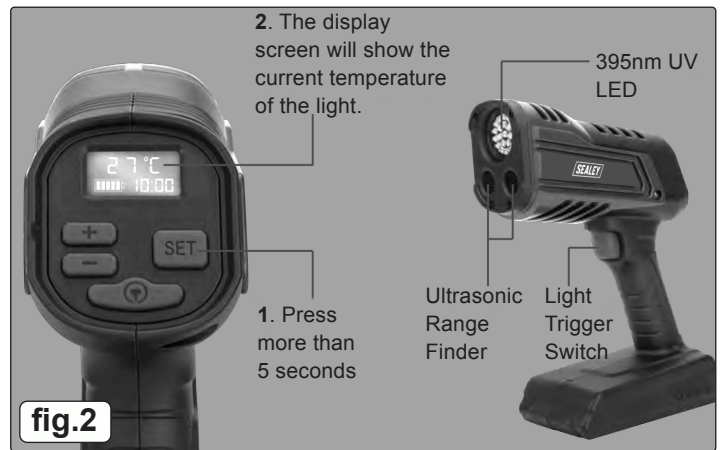

fig.2
- 5.4.1. Press the 'set' button (1) for more than 5 seconds when the light is powered on. The display screen will display the current temperature of the light (2). See fig.2.